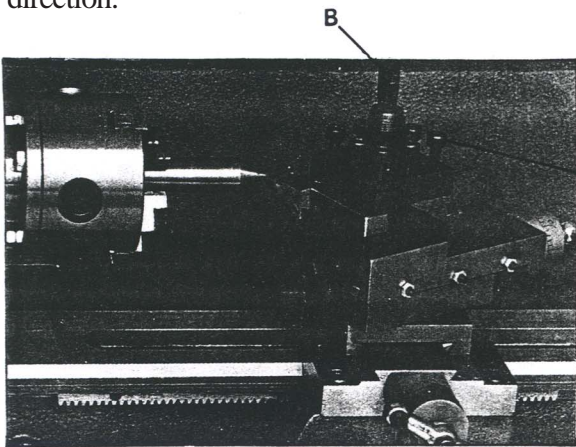

Fig. 11
Loosen the lever shown in (B) of figure 11, then adjust the tool post position. Once the adjustment is made, re-tighten the lever. To replace the work cutter, loosen the screws (A) with the allen wrench provided.